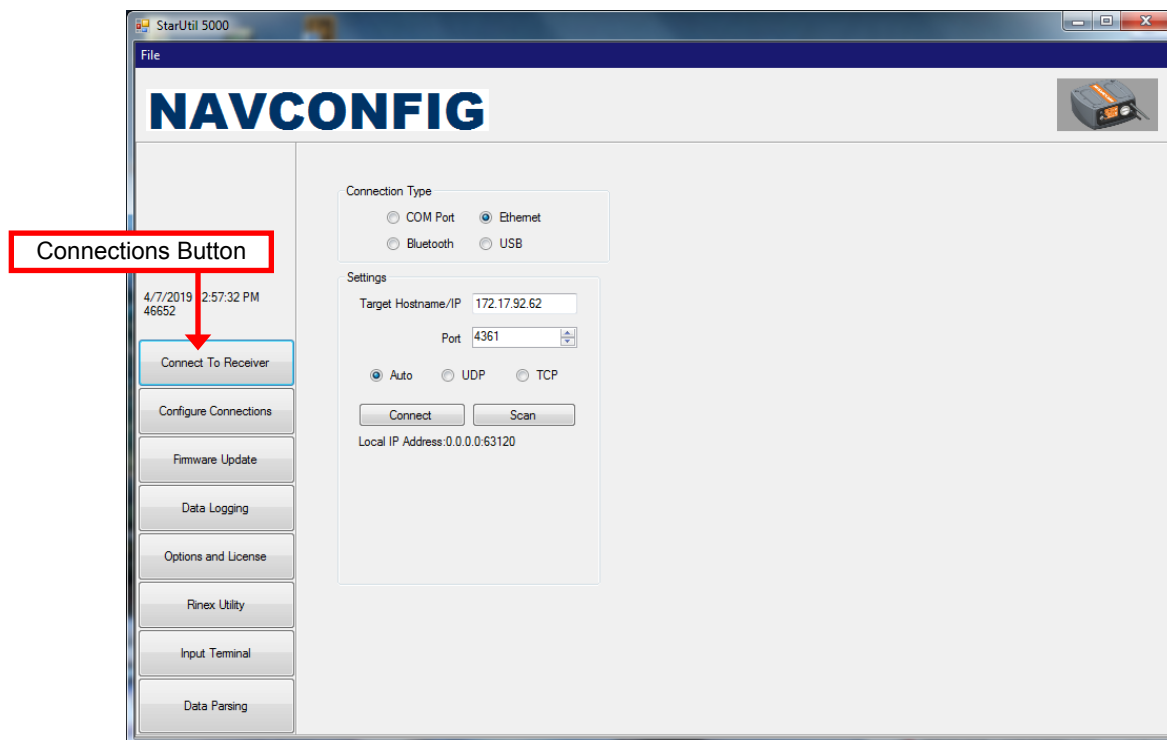

Figure 3: Connections Button
1. Click the *Connect To Receiver* button to establish communications between the PC and the SF-5050 (see Figure 3). The *Port Configuration* dialog box opens.